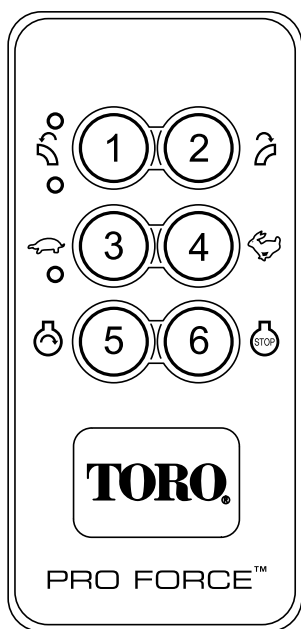

Figure 15
4. Engine Start will only become energized by pressing the Start button while the Engine Start Enable Condition is active. The Engine Start Enable Condition becomes active only when the following Engine Start Enable Sequence has been performed (Figure 15).